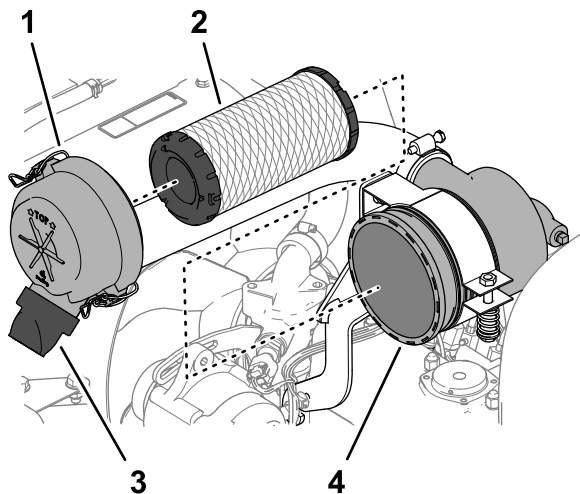

Figure 75
3. Release the latches that secure the air-cleaner cover to the air-cleaner body (Figure 75).
6. Remove the filter element (Figure 75).
7. Remove the rubber outlet valve (Figure 75) from the dirt ejection port of the air-cleaner cover.